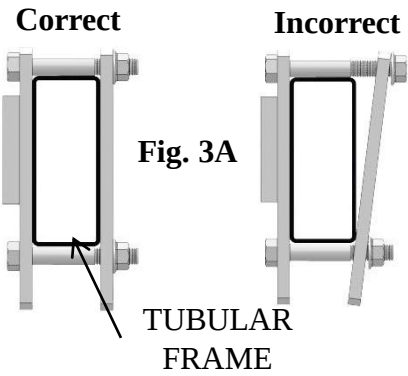

Fig. 3A
- Torque flange nuts (P) to 75 ft.*lbs. Tighten them evenly. Do not tighten one all the way before tightening the other. Tighten evenly. See fig. 3A. Inner strap (N) will bend if done incorrectly.
- Torque nut (P) and bolt (Q) to 75 ft.*lbs. Tighten them evenly. Do not tighten one all the way before tightening the other. Tighten evenly. See fig 3A. Inner strap (N) will bend if done incorrectly.
- Torque flange nuts (P) to 75 ft.*lbs. Do not tighten one all the way before tightening the other. Tighten evenly. See fig. 3A.